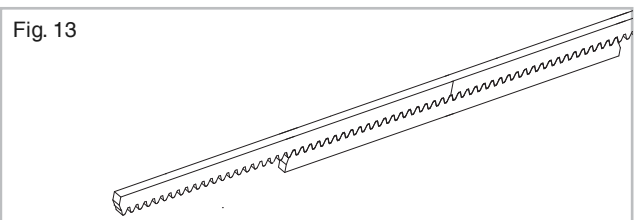

Fig. 13
- Place the second section of rack side by side with the first one, using an upside-down section of rack to synchronise the rack teeth as illustrated in Fig. 13.